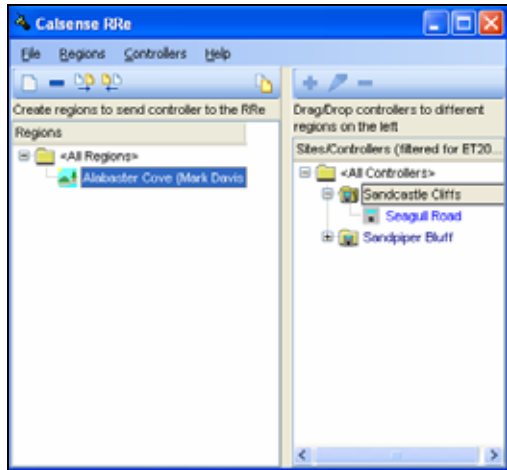

Figure 33.2.12
- Highlight the region, site, or controller in the **Regions** list that you want to send to the RRe-TRAN Handheld unit (Figure 33.2.12).